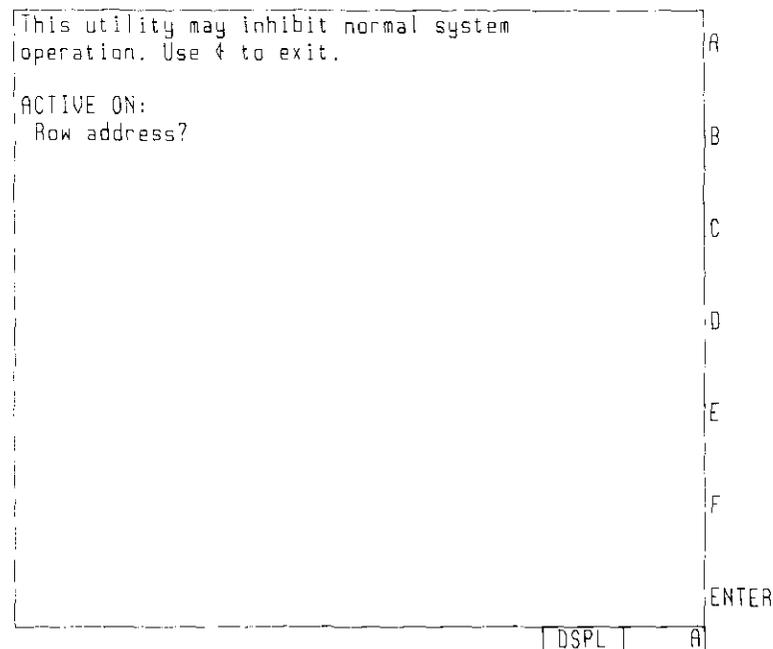

Figure 5-15. Alphabetical Softkeys
4. Enter the column address of the module in hexadecimal. Use the alphabetical softkeys (Figure 5-15) and the key pad to enter the hexadecimal numbers. Refer to Table 5-J for conversion information.